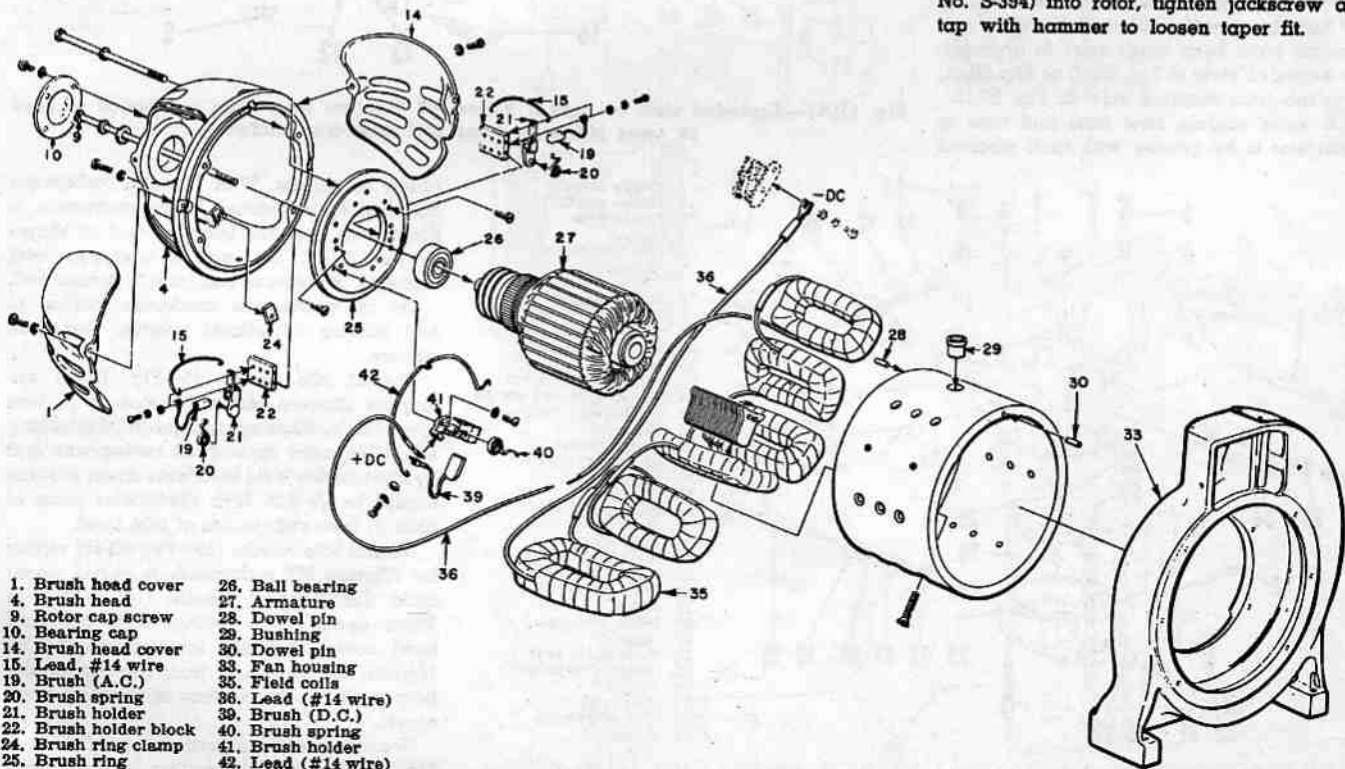

Fig. HL34—Exploded view of model 251HY35-1 generator assembly. Cap screw (9) retains generator rotor (27) to engage crankshaft.
**GENERATORS.** Exploded view of model 251 A35 generator is shown in Fig. HL33 and model 251 HY 35-1 exploded view is shown in Fig. HL34. Care should be taken in disassembly of the generator that any leads disconnected should be identified so that they be reconnected properly. Also, if brushes are to be reinstalled, they should be identified so they can be installed in same location and position from which they were removed. Carefully disassemble to avoid damage to wiring or insulation.
Generator rotor (5—Fig. HL33 or 27—Fig. HL34) can be removed from engine crankshaft by inserting a pin (Homelite No. 22271 cut to a length of  $7\frac{3}{4}$  inches measured from tapered end) into rotor after removing retaining cap screw (14—Fig. HL33 or 9—Fig. HL34). Then, thread a jackscrew (Homelite No. S-394) into rotor, tighten jackscrew and tap with hammer to loosen taper fit.